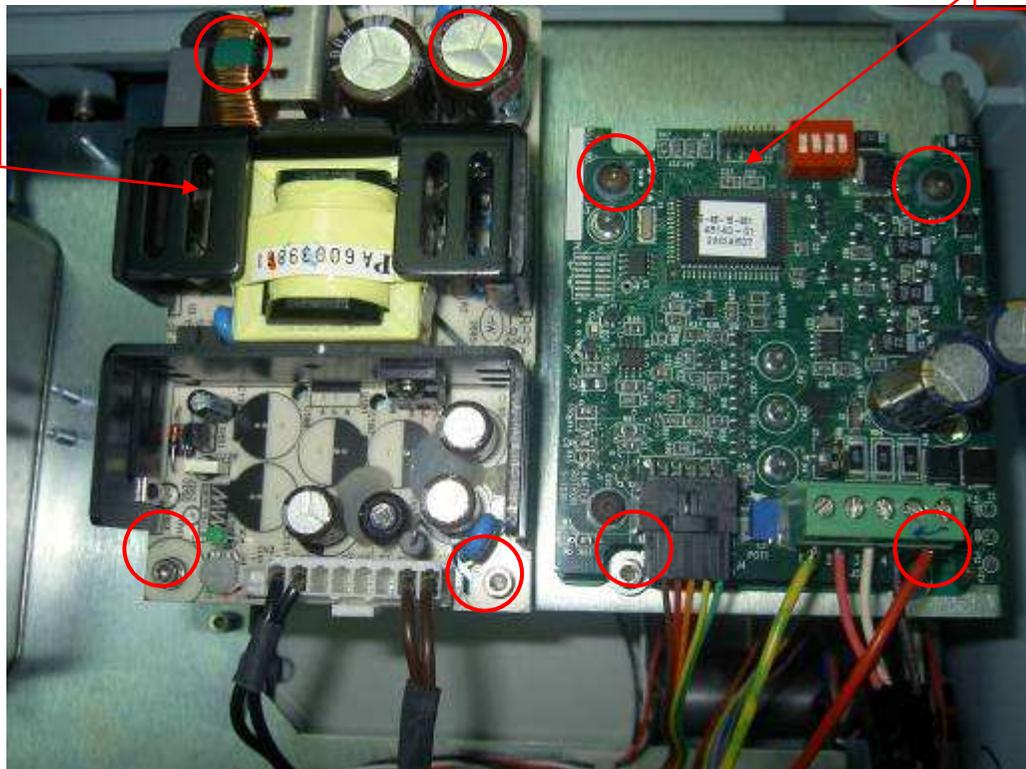

Figure 130
5. Unscrew the allen screws securing the 24 V LVPS\Controller to the Ramp (Figure 130).